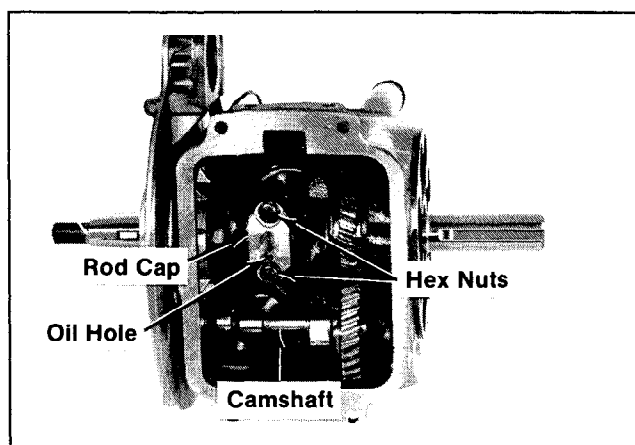

Figure 12-37. Installing Connecting Rod Cap.
4. Lubricate the crankshaft and connecting rod journal surfaces with engine oil. Install the connecting rod cap – make sure the match marks are aligned and the oil hole is towards the camshaft. It is important that marks on connecting rod and cap line up and face flywheel end of engine. Refer to Figure 12-37.